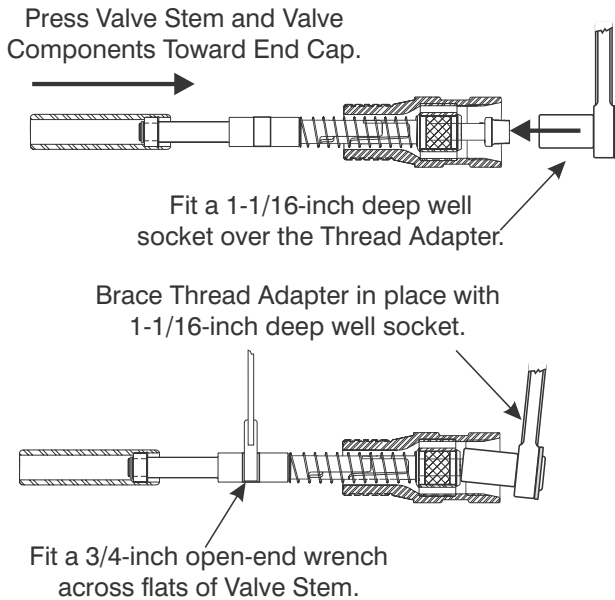

Figure 8-25. Hold Thread Adapter in place.
4. With a 3/4-inch open-end wrench across the flats of the Valve Stem (5), thread the Valve Stem (5) from the Thread Adapter (3) as shown in Figure 8-25.